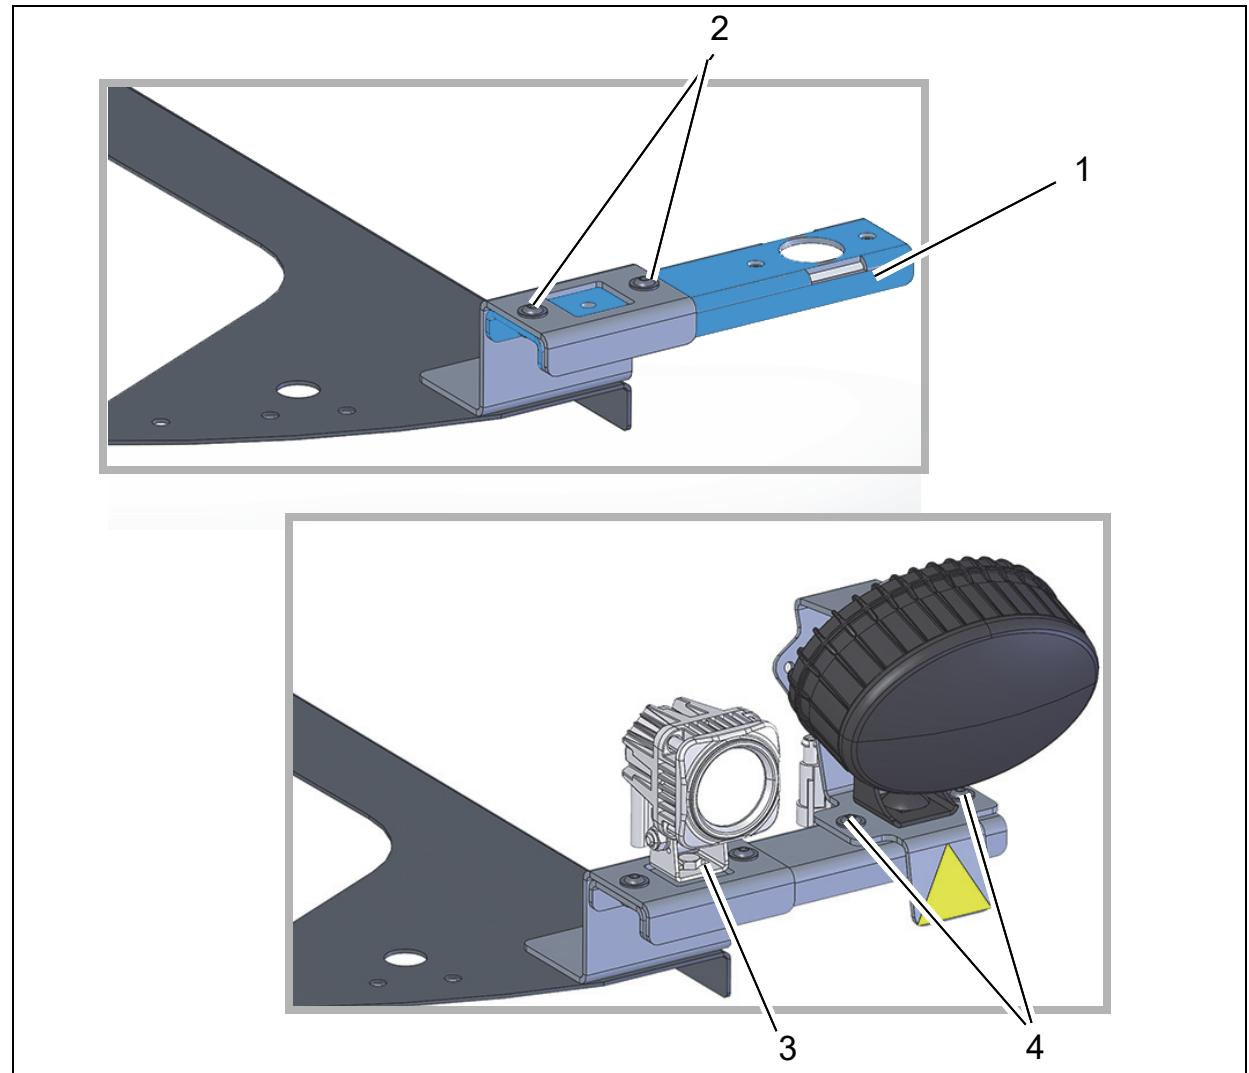

Fig. 4
1. Slide the options bridge (Fig. 4/1) underneath the options holder and attach it using the two M6x12 flanged button head bolts (Fig. 4/2).
2. Install the working light (Fig. 4/3) according to the figure using the standard parts.
3. Attach the BlueSpot to the options bridge using two M6x16 flanged button head bolts (Fig. 4/4).